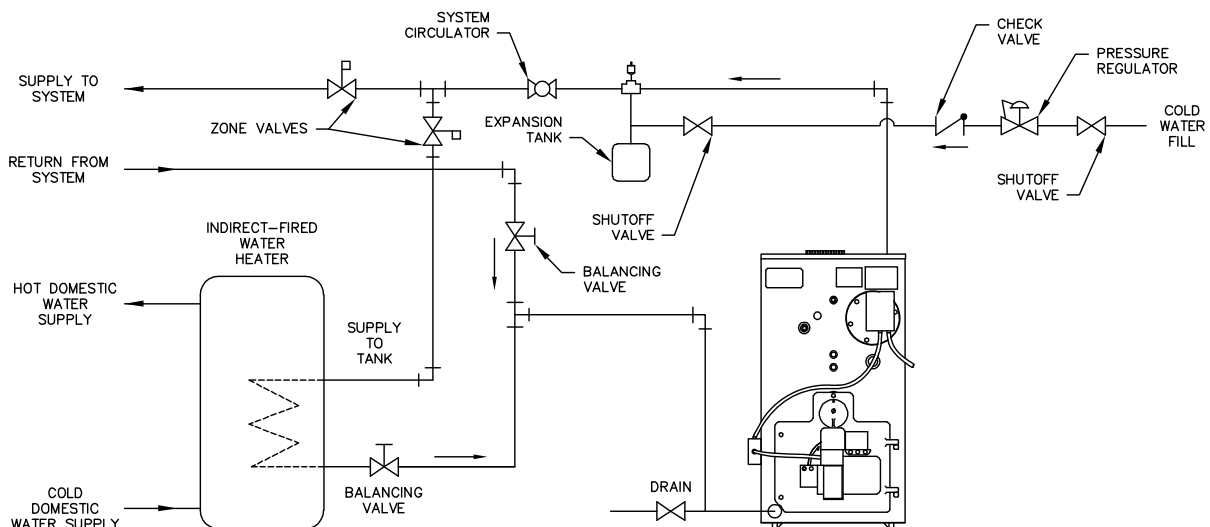

Figure 3.4: Piping with Peerless® Indirect Water Tank
5. If using a Partner® indirect fired water heater or other, see Figure 3.4 for typical piping. Also refer to additional instructions supplied with the Partner®.